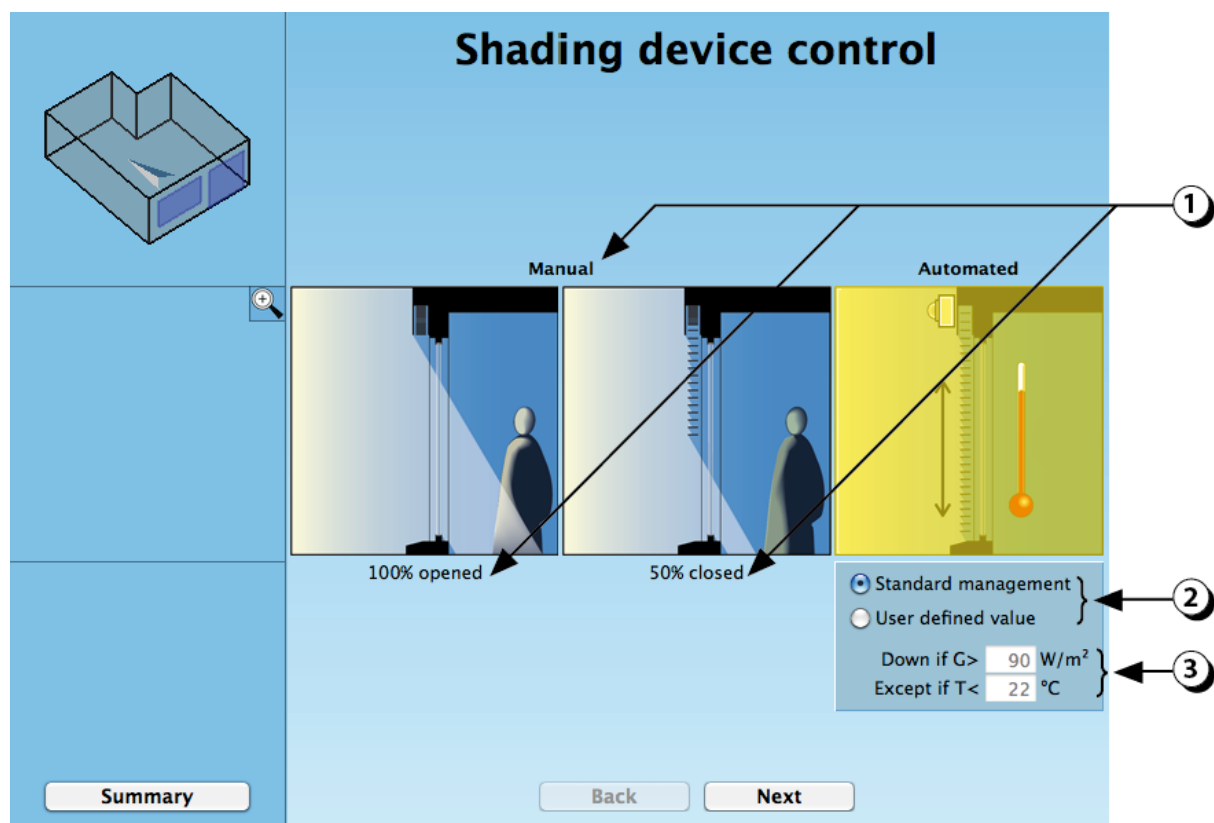

Figure 44: Selection of the shading device control strategy.
**CAUTION:** The frame area is linked to the window dimensions (see Figure 44 for more information).